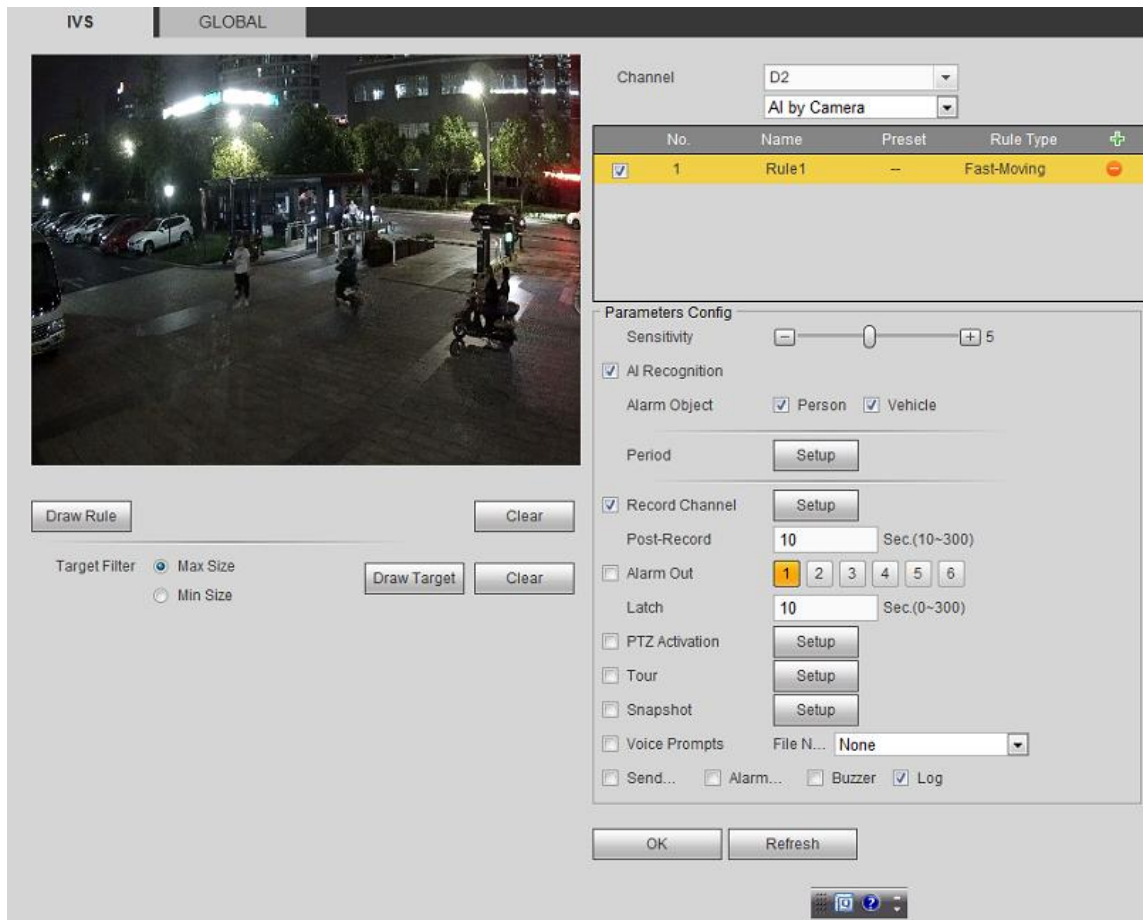

Figure 5-75
Step 2 In the rule type drop-down list, select Fast Moving. See Figure 5-75.